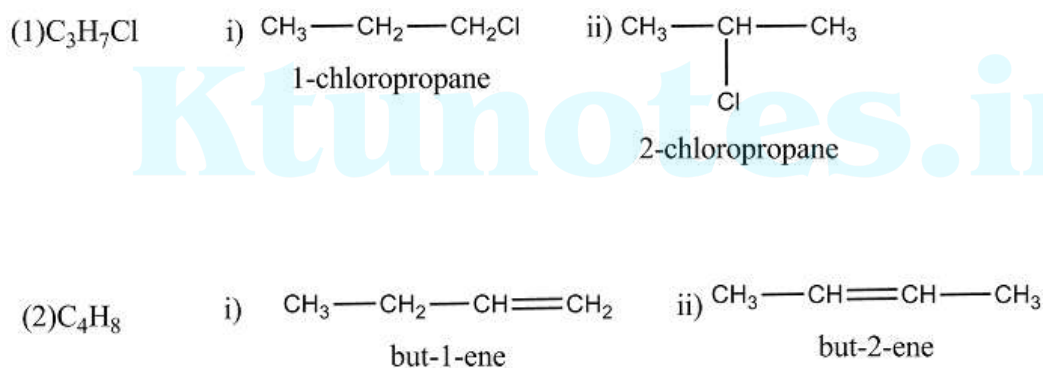

Figure 4.2: position isomers
Isomers differ in the position of attachment of functional group, for example in (1)  $C_3H_7Cl$  the position of functional group  $-Cl$  can be at  $C_1$  or  $C_2$ . (2) In  $C_4H_8$  the position of double bond can be at  $C_1$  or  $C_2$ . (fig. 4.2)